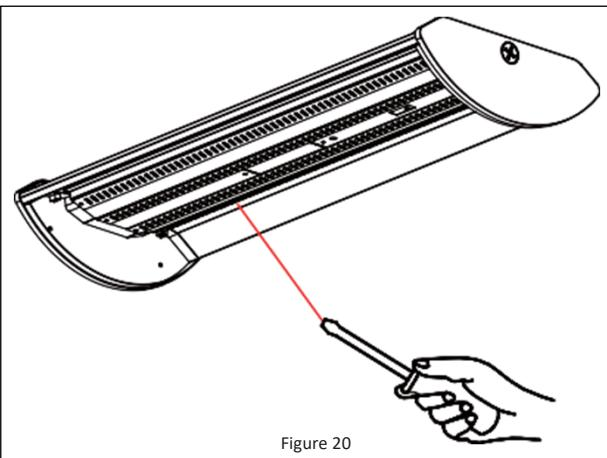

Figure 20
1. Swing the LED panel closed and fasten in place with the 2 screws removed during **Pre-installation**. *See Figure 20.*